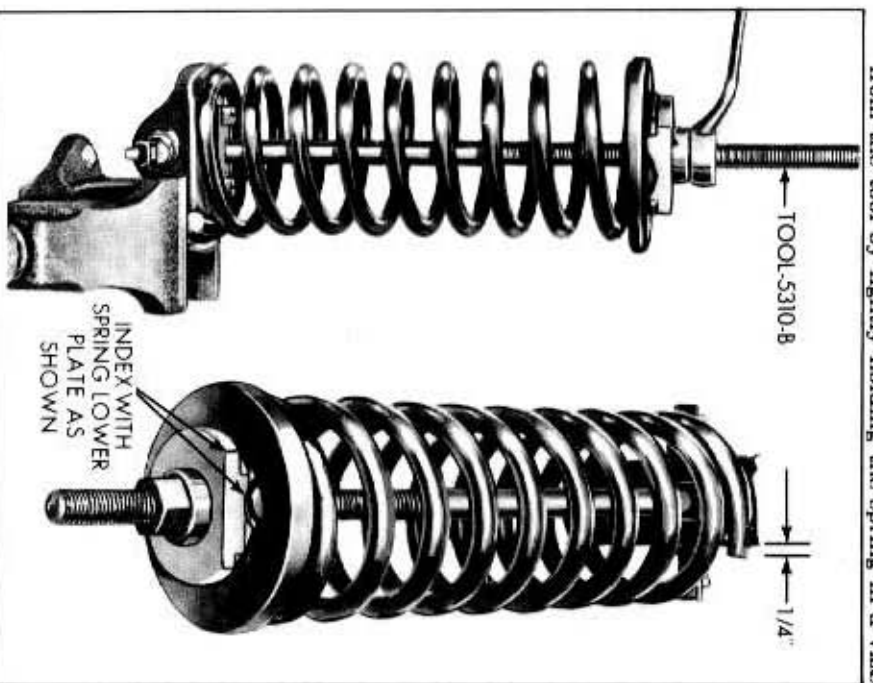

Fig. 3-17—Releasing or Compressing Spring On the Bench
- and loosening the nut until the tension has been removed. See figure 3-17.
2. Install the tool in the new spring with the spring lower plate indexed as shown in figure 3-17. While holding the assembly (by the lower spring plate pad) in a vise, compress the spring to 10-11 inches spring height. See figure 3-17.